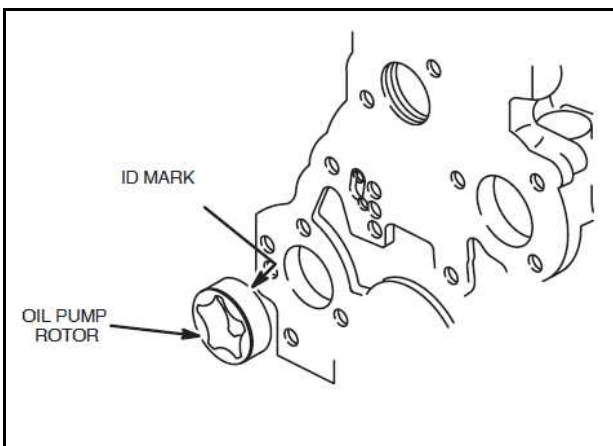

Fig. 10 - Installing Oil Pump Rotor
1. Lubricate oil pump rotor with engine oil and install in cylinder block, Fig. 10.